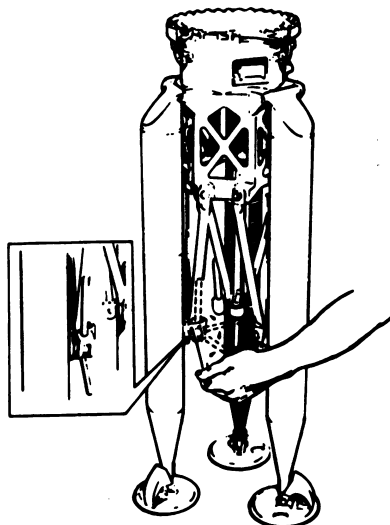

Figure 1. Releasing friction locks.
The TOW is very reliable and has a very high first-round hit probability. The system operates (fig. 1) by the gunner keeping the crosshairs of his optical sight centered on the visible mass of the target. Any difference between the line-of-sight and the flight path of the missile is detected by the IR tracker and analyzed by the missile guidance set. Steering commands are then developed in the missile guidance set and sent through the command-link wires to the missile. The steering commands correct the flight path of the missile and guide it to the aim portion of the target. This is a continuous process until missile impact.
a. Place the tripod on the ground so that two legs are facing in the direction of fire (grooved coupling clamp locking handle to the front). Release the friction locks on each leg by pushing the friction locking handle up (fig. 1).